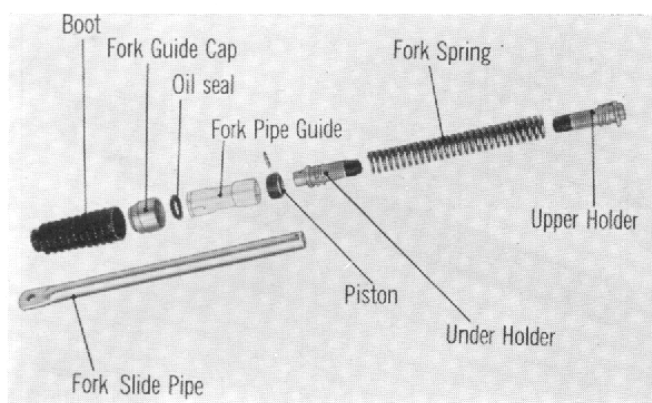

Fig. 68
- (7) Fig. 68 shows the disassembled front cushion assembly.